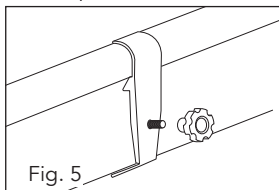

Fig. 5
5. Sit the tile cutter fully into the trough (3) and screw on the trough fixtures (20) (Fig. 5).
6. Unscrew and remove the transport spacer (31) and keep in a safe place.